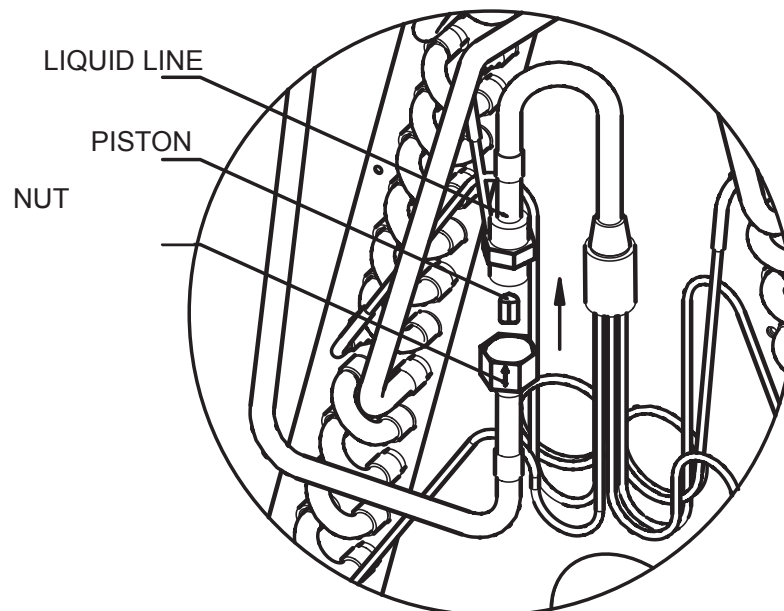

Fig. 7: Flowrator Piston Change
4. Remove factory installed piston and replace with recommended piston from Table 1 as shown in Fig.7.